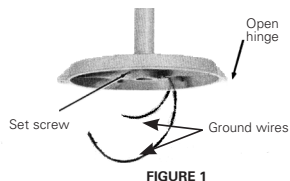

FIGURE 1
2. Pendant, cone, stanchion mount: securely thread onto the appropriate NPT size conduit. Tighten set screw located in the conduit hub. See Figure 1.